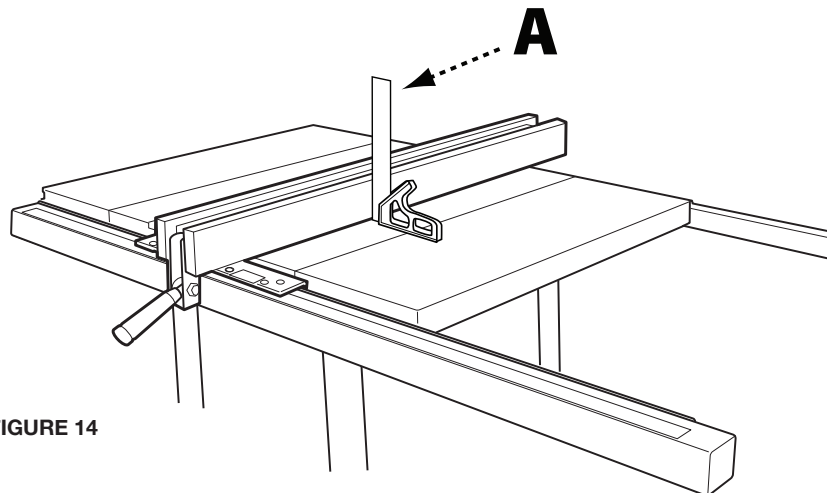

FIGURE 14
2. Using a square (A) (Figure 14) placed against the middle of the fence, check to see if the fence is perpendicular to the table.